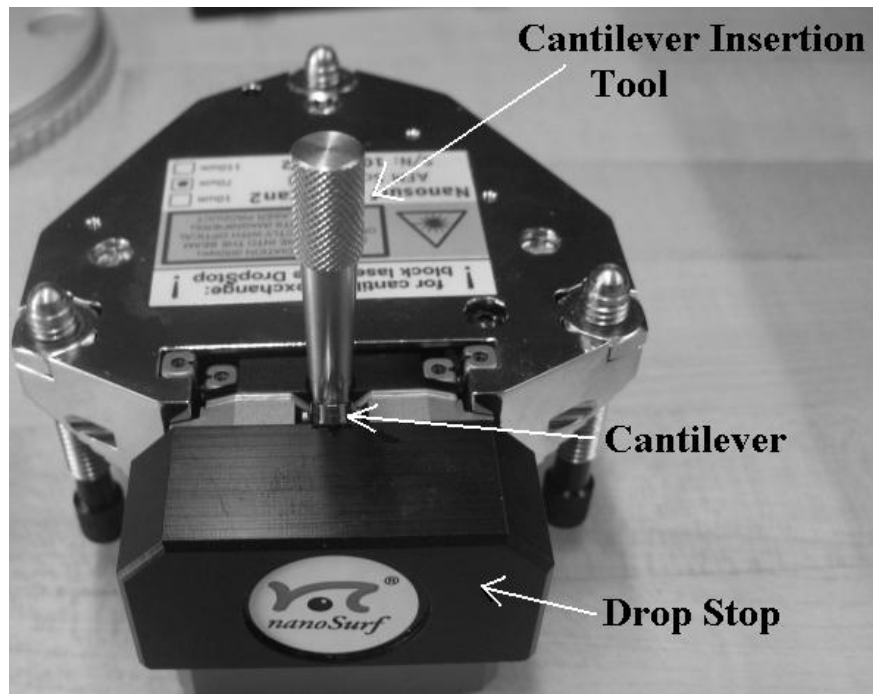

Figure 3: Preparing for tip removal/insertion.
- Position the rectangular end of the cantilever to sit perfectly aligned in the cantilever alignment chip, with the front (tapered) portion (tip end) protruding out over the drop stop. (See Figure 3)